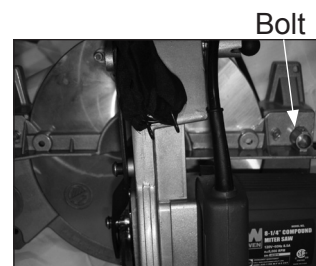

Fig. 3
8. Using the Allen wrench, loosen the two hex bolts (Fig. 3) that secure the Guide Fence to the saw's stationary table.